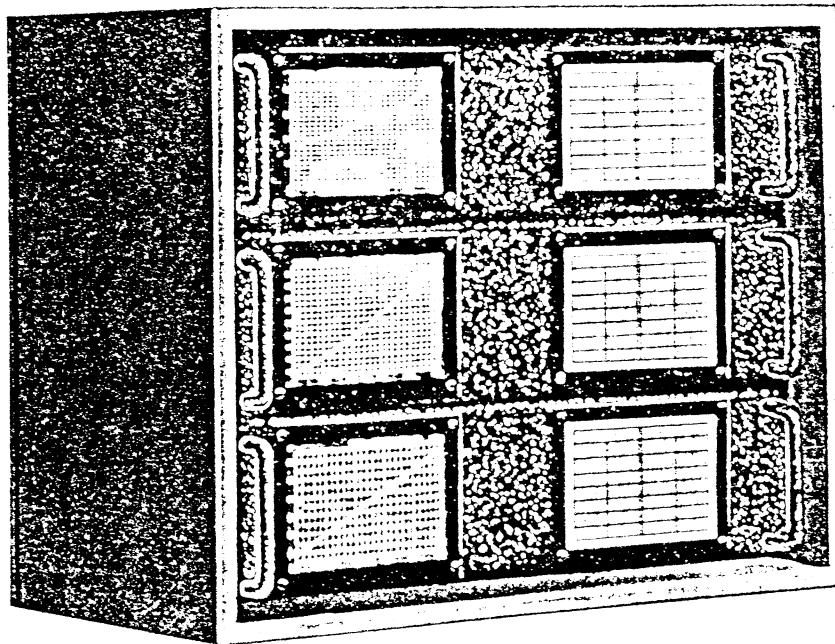

Figure 19. Coil box for three coil sets.
f. The two coil boxes (figs. 19 and 20) are made of wood, and are provided with inside cleats to form separate racks for the individual coil sets. The smaller box has space for three coil sets, the larger one accommodates five.*